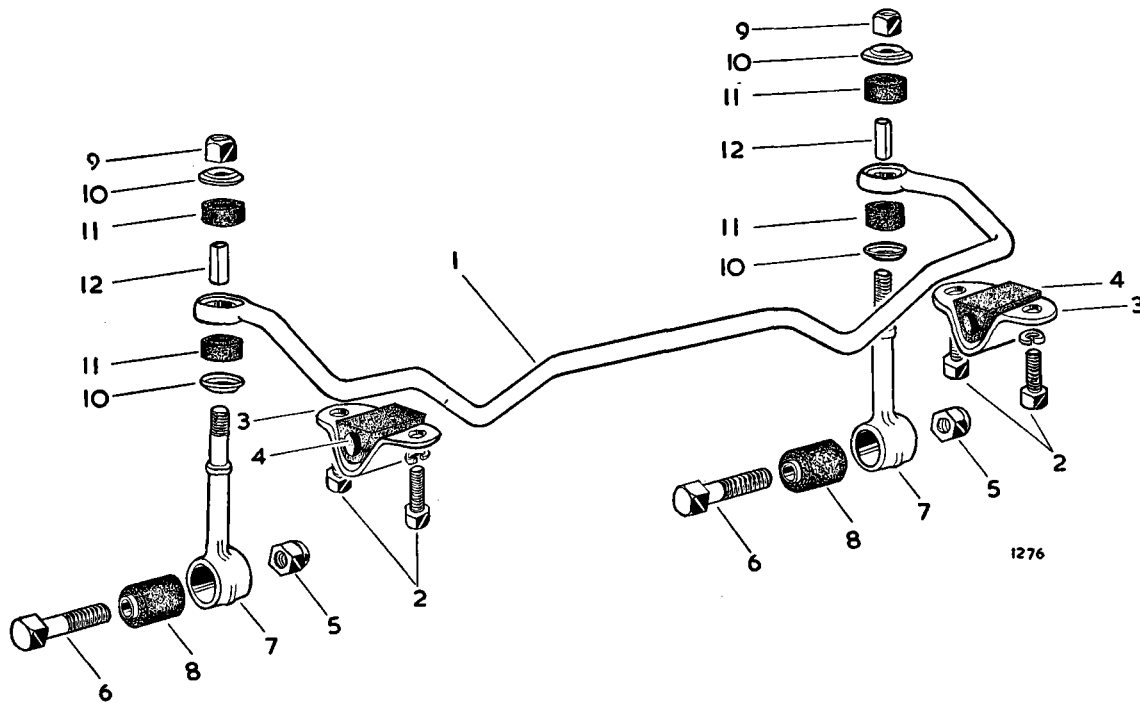

Fig. 18. Exploded view of the Anti-Roll Bar
Raise the car on a lift to enable work to be carried out underneath. Remove the four bolts (2) (Fig. 18) from the anti-roll bar support brackets (3) on the chassis side members.